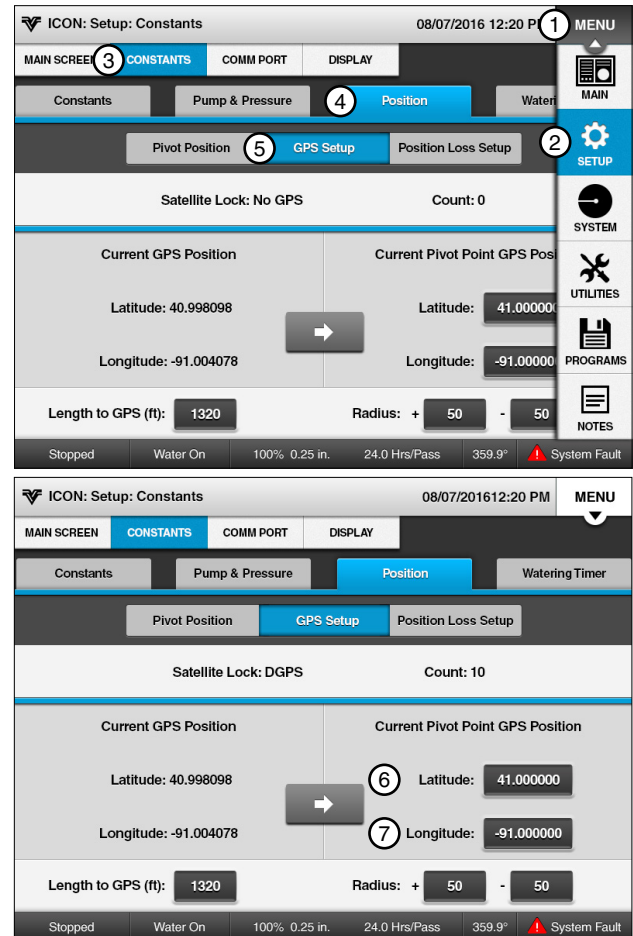

Figure 43-1
2. Go to the GPS Setup screen. See Figure 43-1.